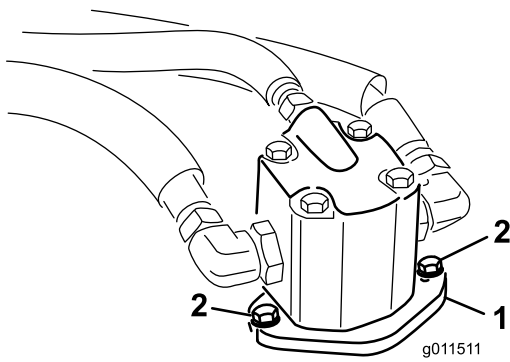

Figure 71
4. Remove the bolts securing the hydraulic motor to the cutting unit (Figure 71). Lift the motor off of the cutting unit and lay it on top of the cutting unit.